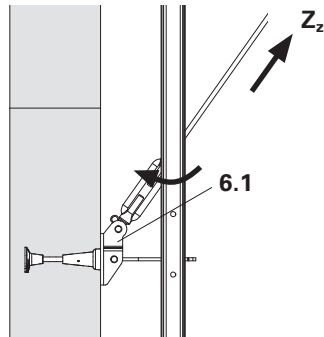

Fig. B1.34d
6. Insert eyelet bolt Ø 25-M20L (7.5) into the bracing shoe (6.1) and secure with designated bolts and cotter pins. (Fig. B1.34d)